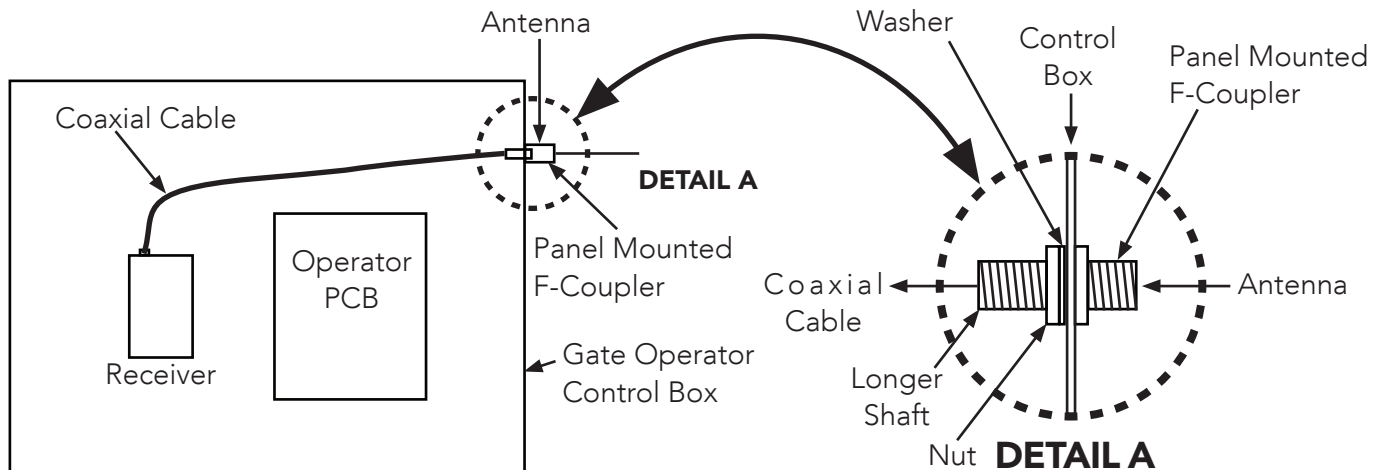

FIGURE 8: External Antenna Wiring
2. Insert longer end of F-coupler into drilled hole from outside enclosure (Figure 8, Detail A).
3. Affix F-coupler to enclosure with nut and washer (Figure 8, Detail A).
4. Attach coaxial cable between receiver and panel mounted F-coupler (Figure 8).
5. Attach antenna (or extension cable) to the F-coupler protruding from operator enclosure (Figure 8).